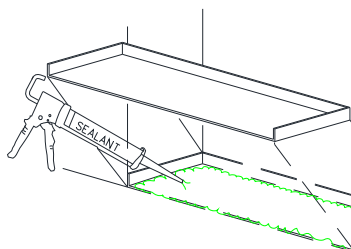

**Figure 10:**
- Apply sealant in all corners and seams of the sillpan (Figure 10).